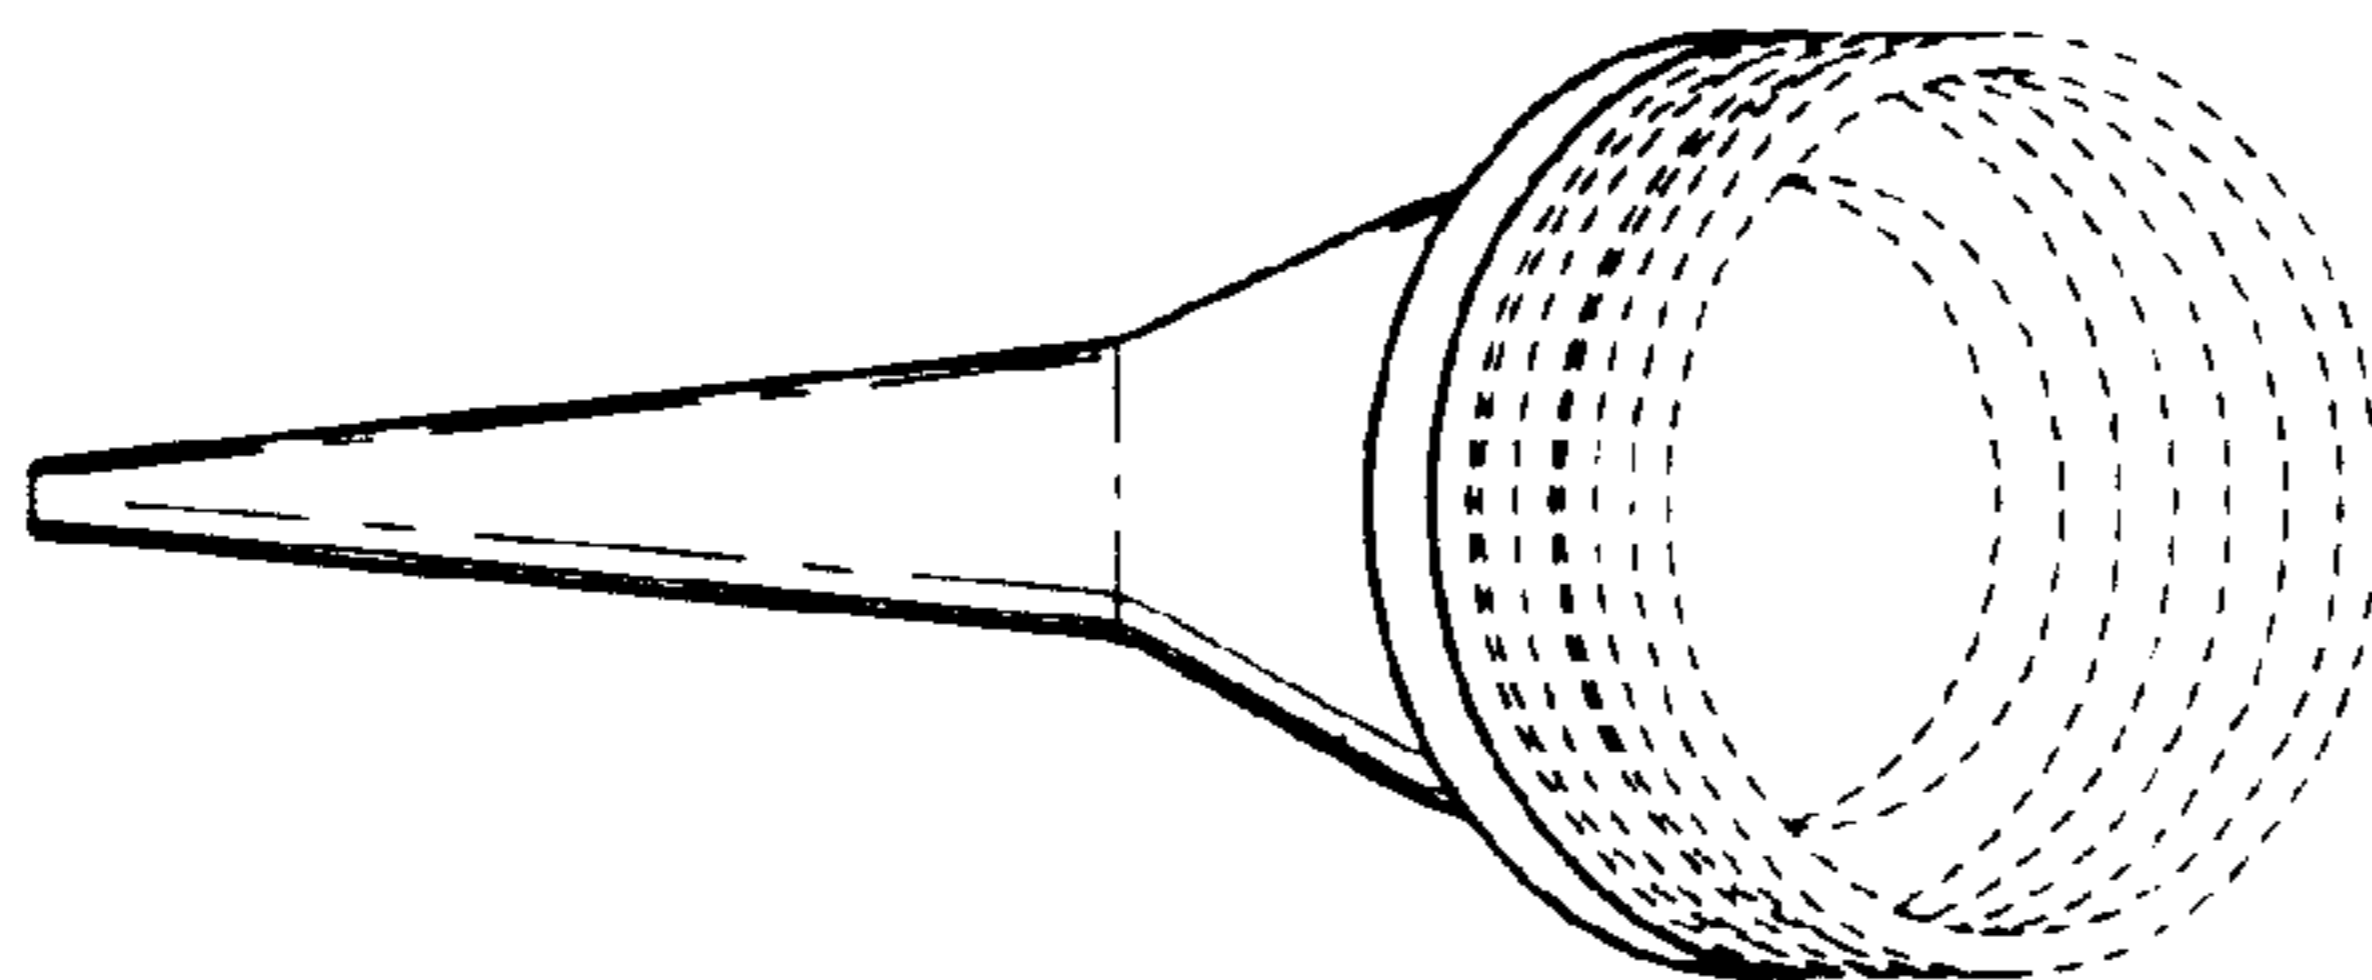

FIG. 13
- FIG. 13 is a bottom plan view thereof;